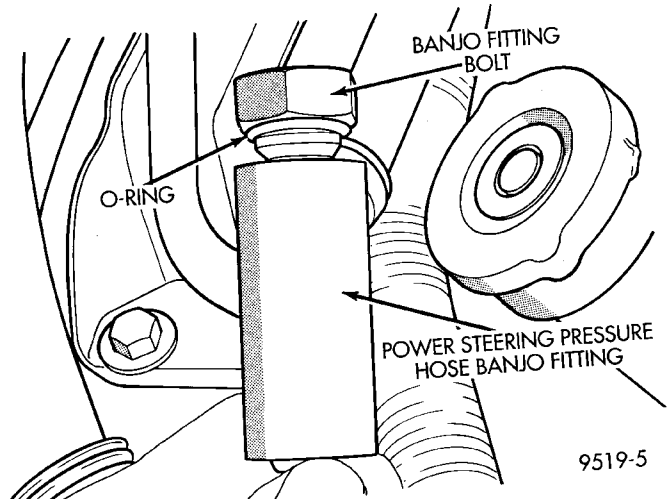

Fig. 29 O-Ring Installed On Banjo Fitting Bolt
(9) Install a new O-ring (Fig. 29) on power steering fluid pressure hose banjo fitting bolt.